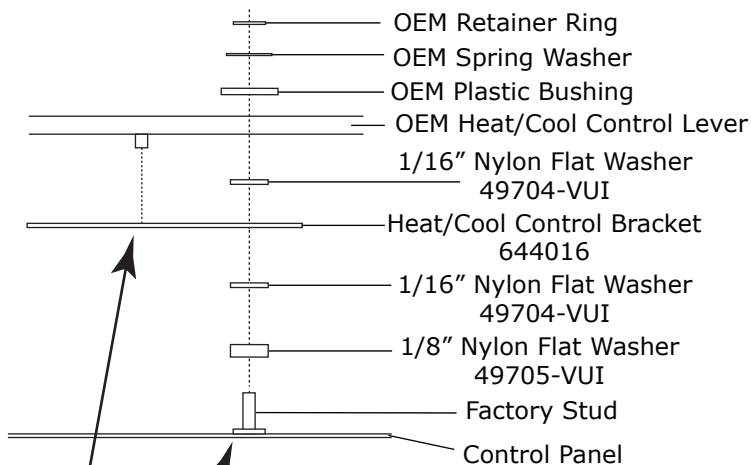

Figure 9
1. Install OEM Heat/Cool control lever, Heat/Cool control bracket and slide pot assembly as shown in Figure 9, below.